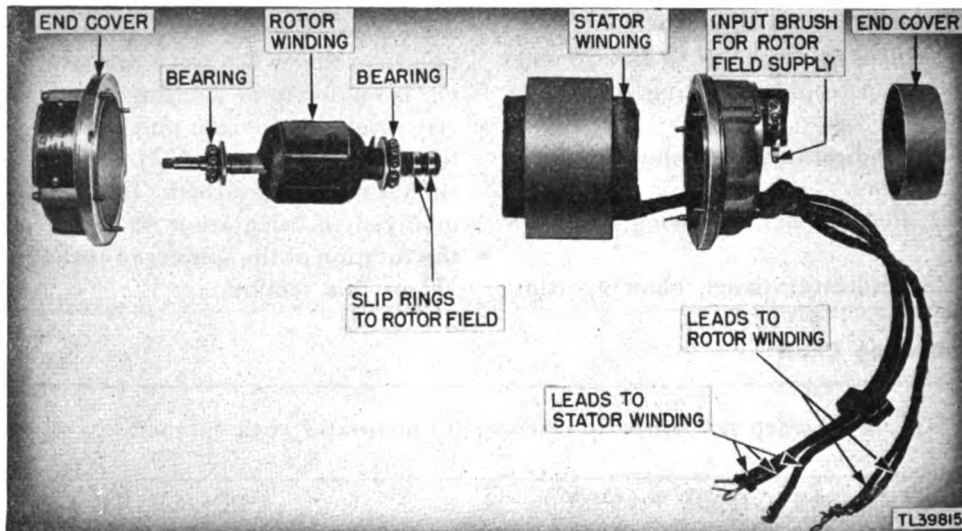

Figure 206. Selsyn motor, disassembled.
e. Figure 206, Selsyn motor, disassembled.
**d. GEARS IN BASE OF SPINNER ASSEMBLY.** (1) Remove the r-f unit and the receiver unit from the yoke assembly. (Refer to paragraph 98a for information on removal of receiver.) After the receiver is removed, the r-f rack can be easily removed by loosening the bolts around the rack.
(2) Lower the spinner assembly to the ground (TM 11-1361).
(3) Place the pedestal base on its side.
(4) Remove the large setscrews located around the base of the pedestal unit. Use the Allen wrenches.
(5) Lower the bottom plate of the assembly. Access is now permitted to the gear network in the base of the spinner assembly.
**e. DISASSEMBLY OF SELSYN MOTORS.** The procedure in disassembling the motors will be evident when the motors are removed from their units. Figure 206 is a picture of the selsyn motor disassembled. Lower echelon repair may include lubrication of bearings, cleaning of windings, etc. The motor may be sent to a higher echelon for servicing.